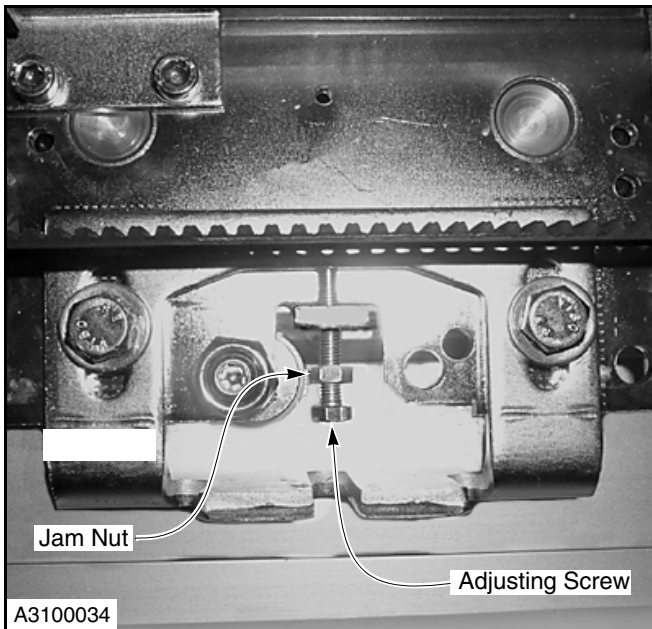

Figure 8
- b. Loosen the jam nut and thread the nut away from the hanger bracket. (See Figure 8.)
- c. Turn adjusting screws until the door is level. (See Figure 8.)